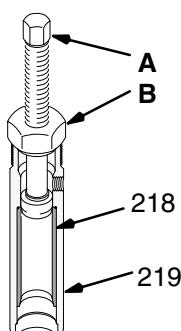

Fig 36-4
9. Screw the large nut (B) of the tool into the top of the cylinder (19). Screw down the rod (A) to push the sleeve out. Remove the tool. See Fig 36-4.